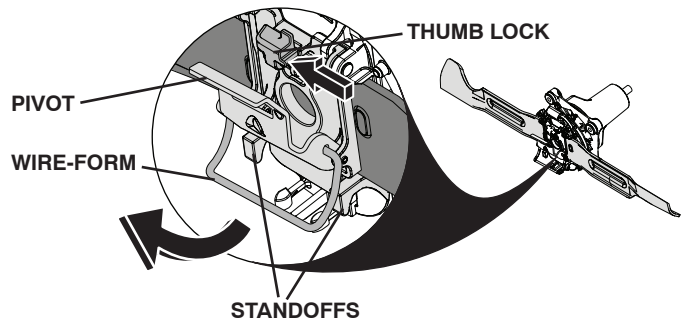

Fig. 36
- Slide thumb lock and release pivot to allow wire-form to swing free from standoffs. (See Fig. 36)